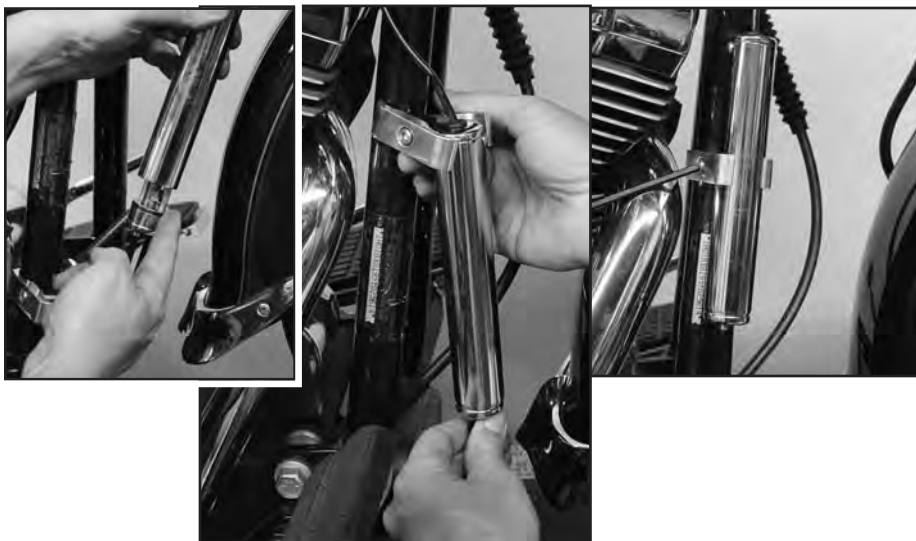

Figure 14
6. Install Actuator Cover. If necessary use a small amount of lubricant on "O" ring. **Figure 14.**
8. Install Actuator using two-piece clamp and bolt from bag. **Leave loose.** (**3/16" Allen Wrench**) **Figure 14**